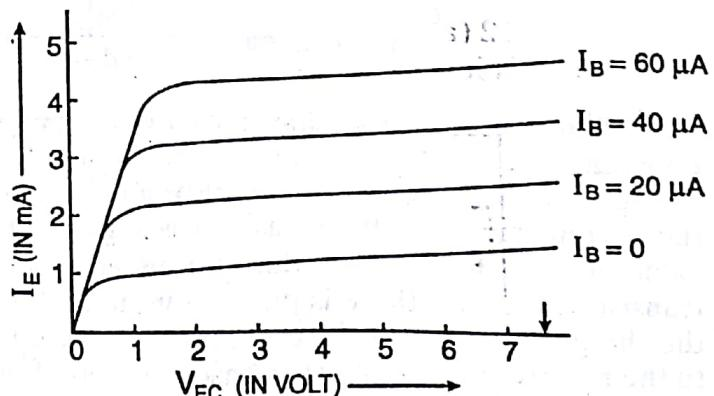

Fig. 8.14. Output characteristics in CC mode
(2) Output characteristics—For this, keeping the base current I_B constant at a particular value, the emitter-collector voltage V_{EC} is changed and corresponding to each value of V_{EC} , the emitter current I_E is read. Then a graph is plotted between the emitter current I_E and the emitter-collector voltage V_{EC} . The experiment is repeated for different values of base current I_B . The output characteristic curves are shown in Fig. 8.14 which are similar to the output characteristic curves obtained in common